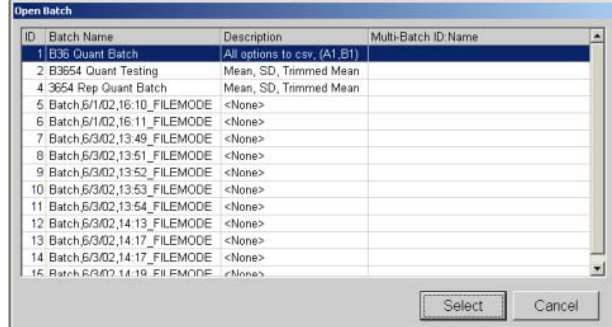

Figure 5-98 Open Batch Dialog Box—Select Batch
1. On the **File** menu, , click **Export Batch Data**. The **Open Batch** dialog box opens. See Figure 5-98.